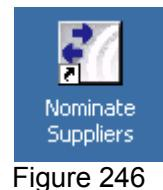

Figure 246
1. The 'Nominate Suppliers' Icon should be automatically installed onto your desktop (see Figure 246).